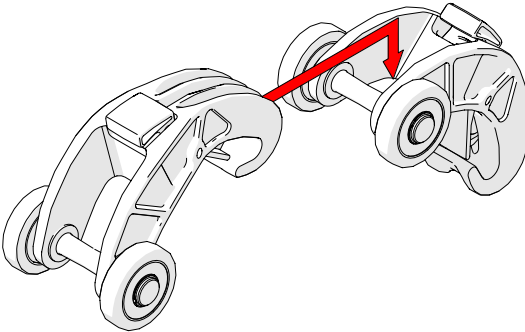

Fig. 46 - Lift the hook over the axle of the QuickLink
1. Lift the hook of the QuickLink over the axle of the QuickLink that is to be connected (*Fig. 46*).